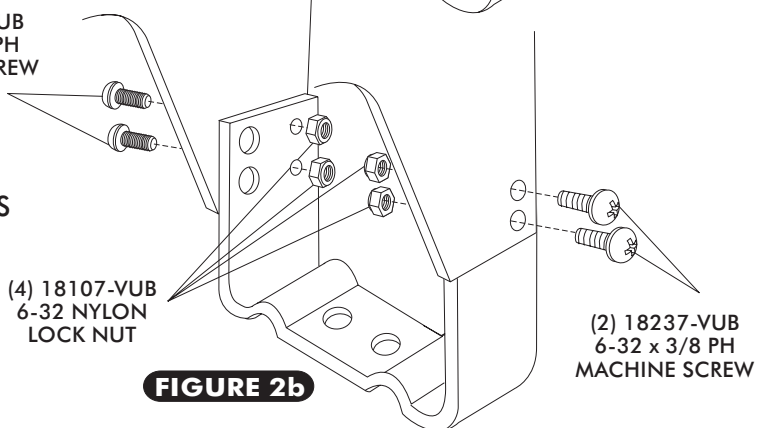

FIGURE 2b
- USING (4) 6-32 x 3/8 PH MACHINE SCREWS AND NYLOCK NUTS ATTACH THE CABLE BRACKET AS SHOWN IN FIGURE 2b.
(2) 18237-VUB